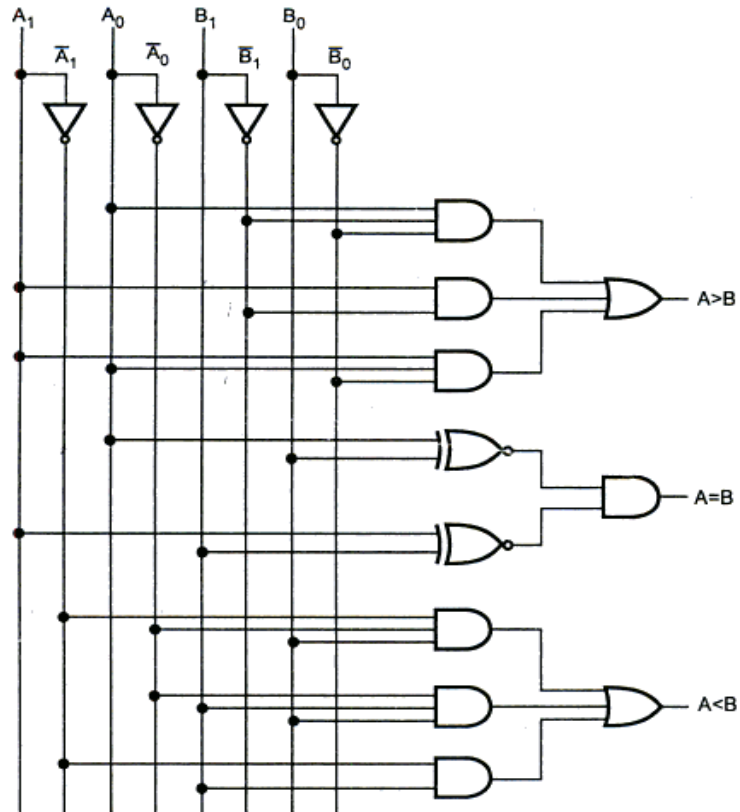

Figure 3.1: 2-bit Magnitude Comparator
1. Construct the logic circuit of the 2-bit magnitude comparator shown in Figure 3.1.